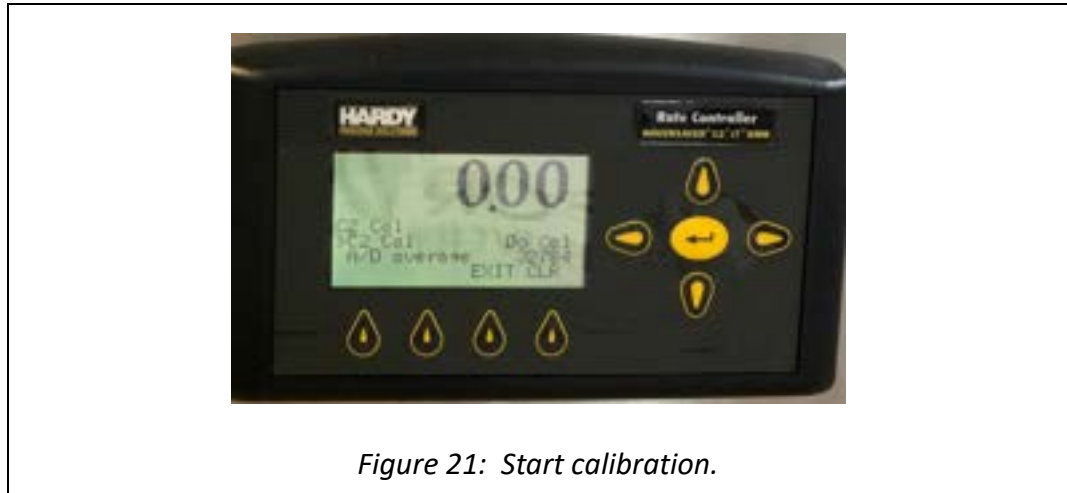

Figure 21: Start calibration.
- Press the *Down arrow* key 3 times until the arrow points to “C2 Cal Do Cal” (see Figure 21).